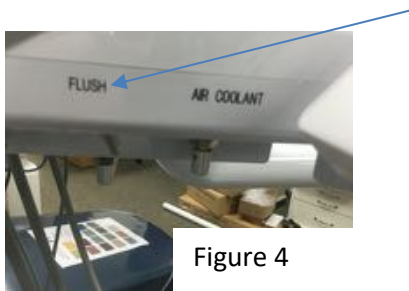

Figure 4
2. Flush Function. To perform a HP flush, Remove all three Handpieces from the delivery unit handpiece holders. Place the HP tubing's in a bucket or container to catch the water that will be purged from the tubing's. Use a suitable shock treatment and add to the water bottle system. Toggle and hold the flush option on the side of the delivery unit head. This will force the water to flush directly from the water bottle system through the water lines in the unit head figure 4